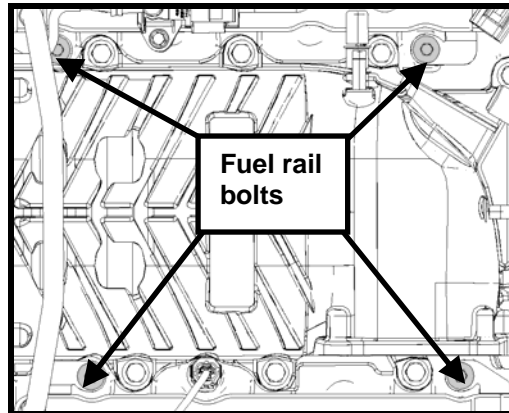

Fig. 17
STEP 2: Re-install the injectors and fuel rail onto the intake manifold (See Fig. 17). Torque fuel rail bolts to 10 Nm (88 lb in)